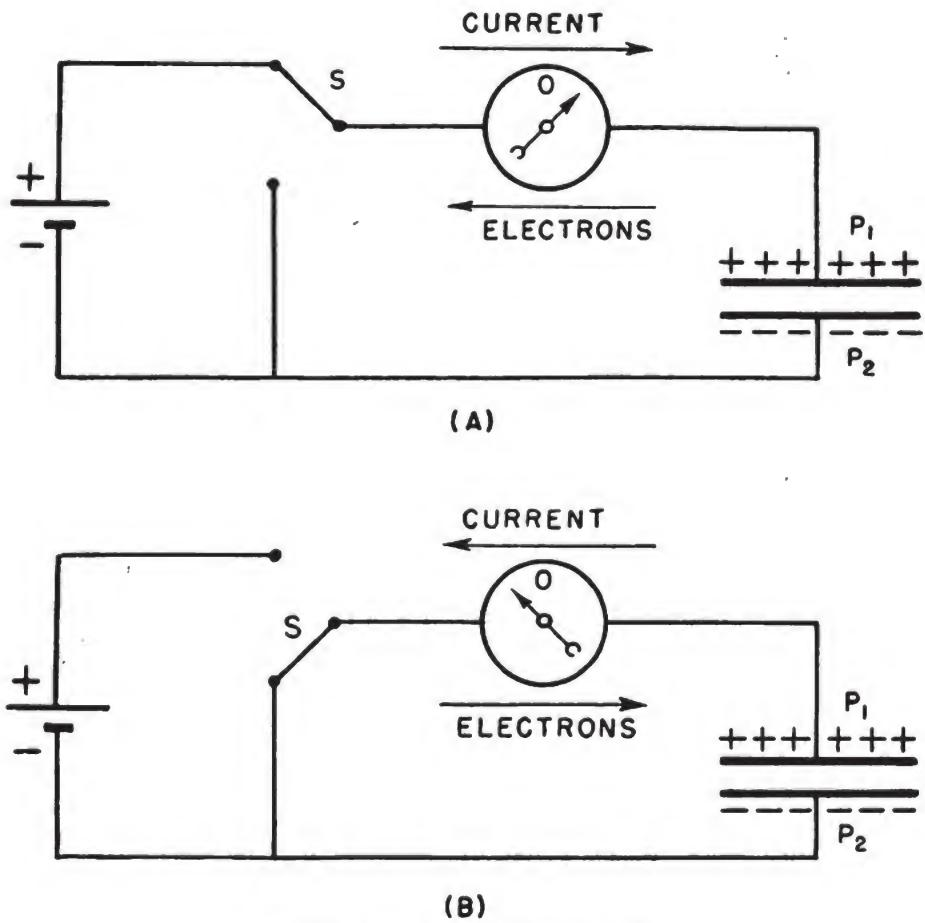

Figure 167.—Condenser action.
As you learned at the end of Chapter I, a condenser consists of conductors, or plates, separated by some insulator. Another name for this insulator is a DIELECTRIC. You use a condenser to reduce arcing at contact points, to counteract the objectionable effects of inductance, and to obtain PULSES of current. In figure 167, you can see the action of a condenser in an electrical circuit. When you close the battery circuit in (A) by means of switch *S*, you get a MOMENTARY flow of current as indicated by the deflection of the galvanometer. Though the current is only momentary, it does charge the condenser. That is, the emf of the battery forces electrons to flow away
When the switch  $S$  connects the plates of the condenser together, as you see in (B) of figure 167, the galvanometer is again momentarily deflected in a direction opposite to that in (A).